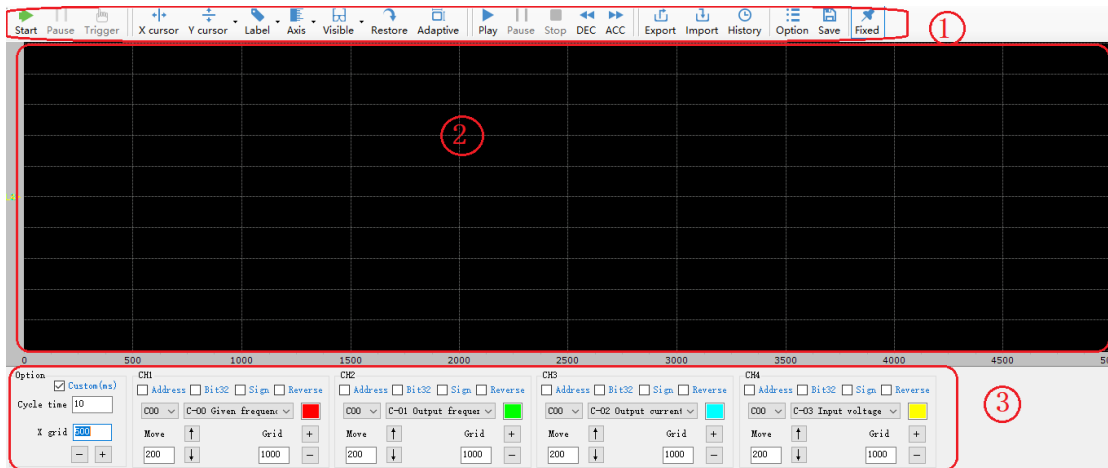

Figure 19
2. Display the data oscilloscope interface, as shown in Figure 19 below: